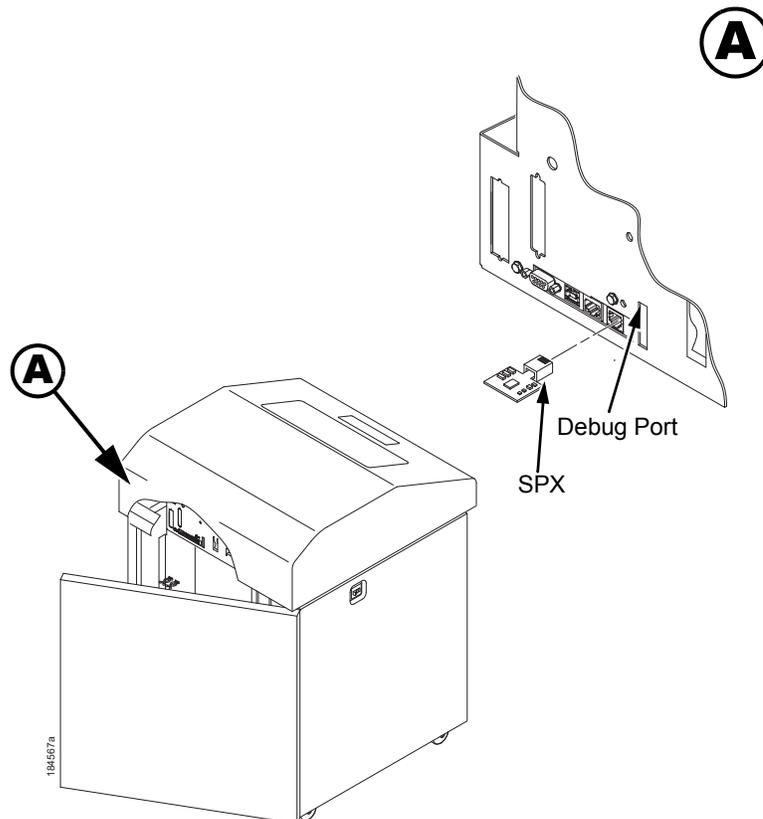

Figure 35. Inserting the SPX into the Debug Port
3. Insert the SPX into the debug port, in as shown in Figure 35 on page 211.